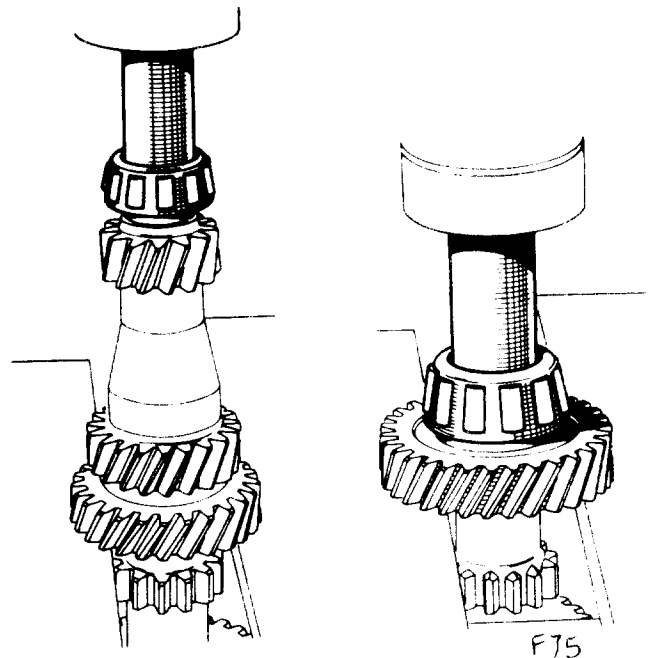

Fig. 40.
- b. The primary shaft. (as shown in Fig. 40)